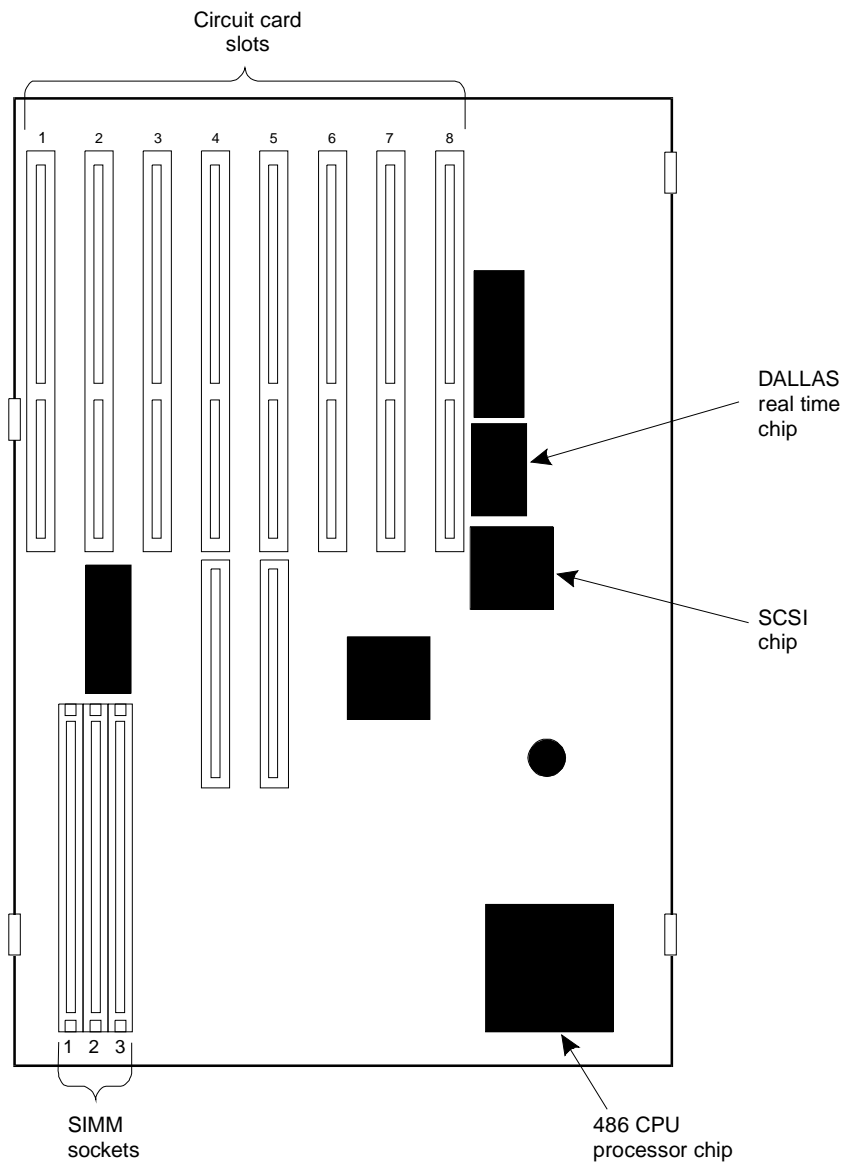

Figure C-1. SIMM Socket Location on System Board
6. Locate the 16 MB or 4 MB SIMM. See the previous figure, Figure C-1.
8. Locate the SIMM in the left, front area of the unit. See Figure C-1.